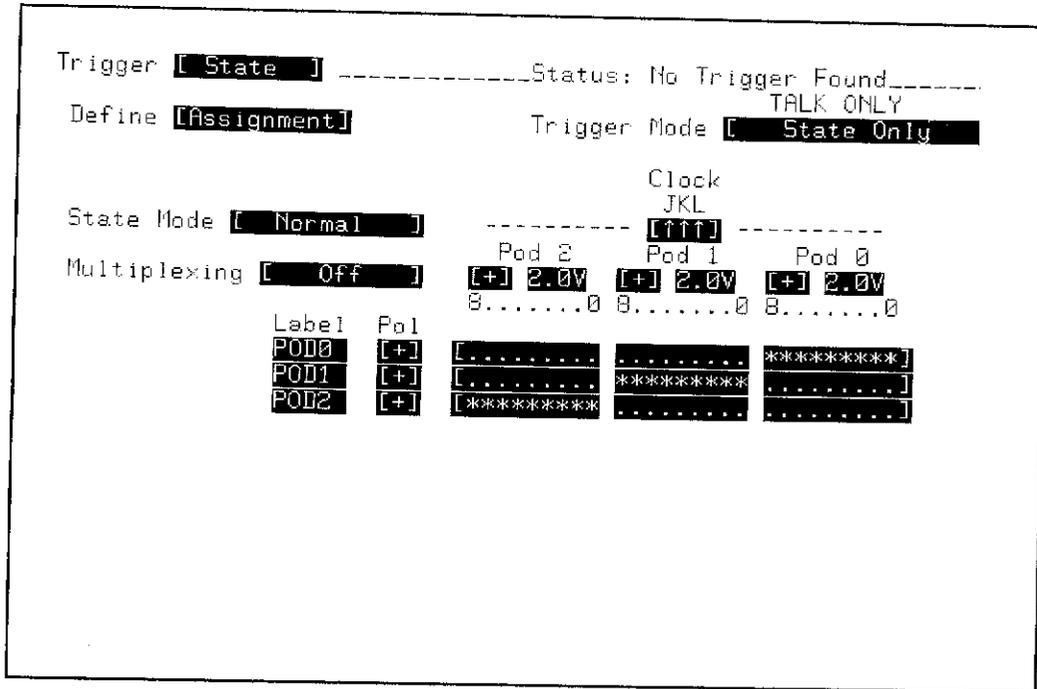

Figure 3-30. TRIGGER State / Define [Assignment] Menu
4. Configure the TRIGGER State / Define [Assignment] menu as shown in figure 3-30.
21. In the TRIGGER State / Define [Assignment] menu (figure 3-30), change the J, K, and L clocks to the falling (\downarrow) edge.